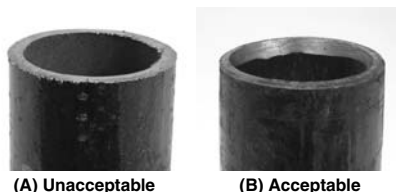

Figure 12 – Cleaning the O.D. of Stationary Pipe
- Check the pipe outside diameter at the end for burrs, etc. that could cut and damage the fitting seal (see *Figure 12*). See the fitting manufacturer's instructions for specific information on acceptable pipe deburring.